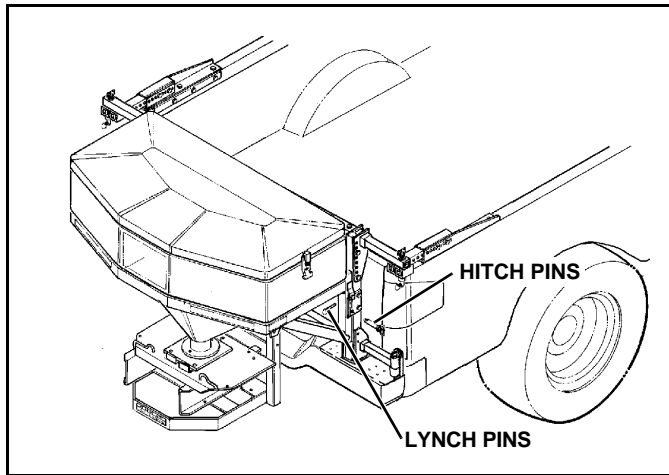

Figure 1-3
7. Install Hitch Pins through Mounting Brackets and Hopper Frame. Install Lynch Pins into Hitch Pins to secure them in place. (See Figure 1-3).